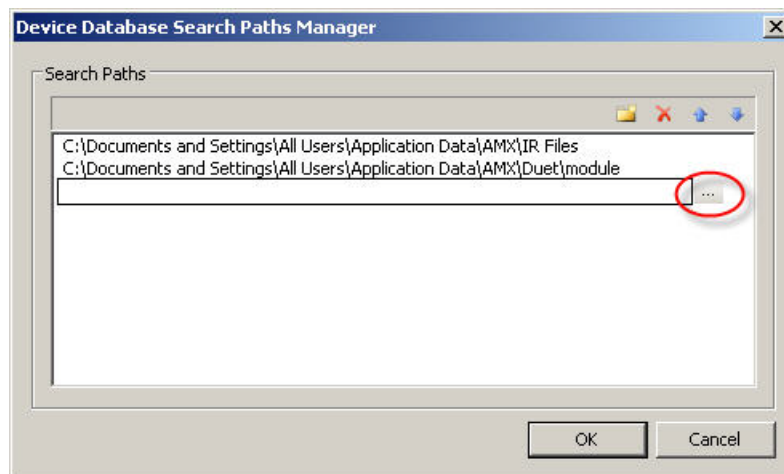

FIG. 67 Device Database Search Paths Manager dialog - Adding a New Path
2. Click the Browse button next to this line to open the *Browse For Folder* dialog (FIG. 67).